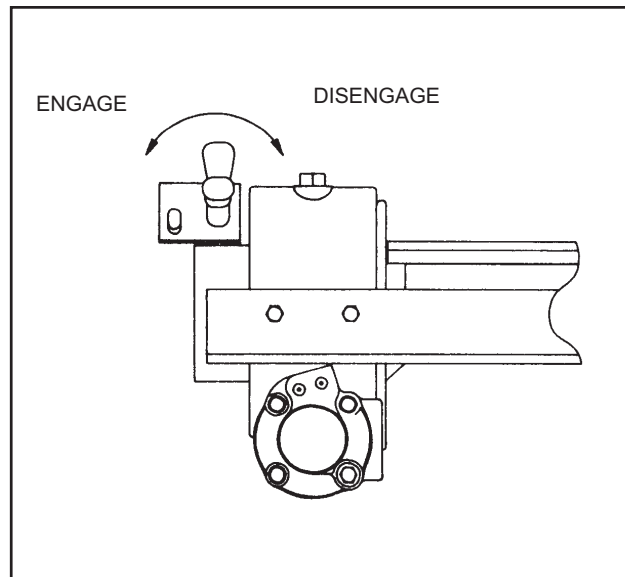

Figure 3-9 20,000# Winch Clutch
- b. The **20,000 lb WINCH CLUTCH HANDLE** has two positions. (See **Figure 3-9**).